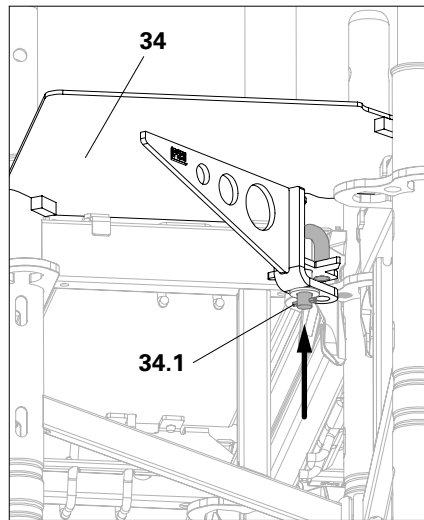

Fig. D1.18
Fit an Inside Corner Plate EDP (**34**) for the remaining internal corner (Fig. D1.18 – D1.20)
- (Fig. D1.18 + D1.18a)